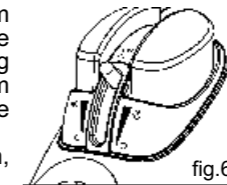

fig.6
5. Set temperature control button to desired position according to different fabrics, put the adjustable steam knob to "☞" position (Fig.6), and then steam will come out from steam vents of soleplate. During steaming iron, it is normal that the power indicator light cycle from blinking to illuminate steadily. It is because the appliance automatically heat preservation.